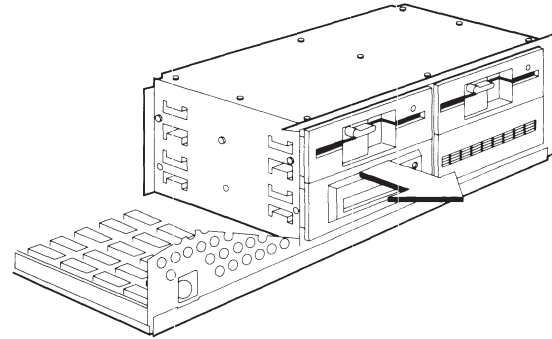

Figure 7-38. Removing a Mass Storage Device from Position A.
4. Slide the mass storage device out of the drive housing assembly (Figures 7-38 and 7-39).
The most important step when installing the 387 coprocessor in a COMPAQ DESKPRO 386 Personal Computer is orientation of the coprocessor. See Figure 7-38 for the correct orientation. Pay particular attention to the relative positions of the beveled corners that indicate the location of Pin 1 on the 387 coprocessor.